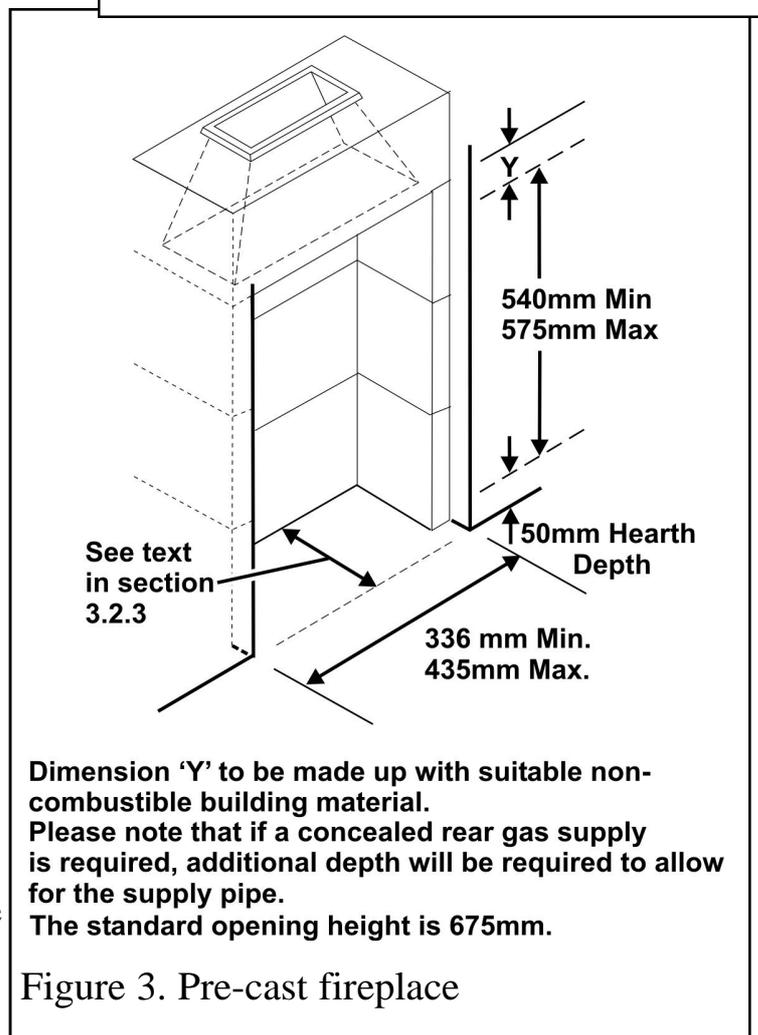

Figure 3. Pre-cast fireplace
**3.2.3** (See figure 3). To a fireplace that has a precast concrete or clay flue block system conforming to BS1289 or BS EN 1806. The appliance is suitable for installations conforming to older versions of BS1289 as well as the current edition. The flue blocks must have a minimum width not less than 63mm and a cross-sectional area not less than 13,000mm2. Older editions of BS1289 required a cross-sectional area of 13,000mm2. The current revision of the standard requires 16,500mm2. This appliance is suitable in both cases. The total depth of the opening measured from the finished front of the fireplace (Including plaster, surround etc.) must be as below: